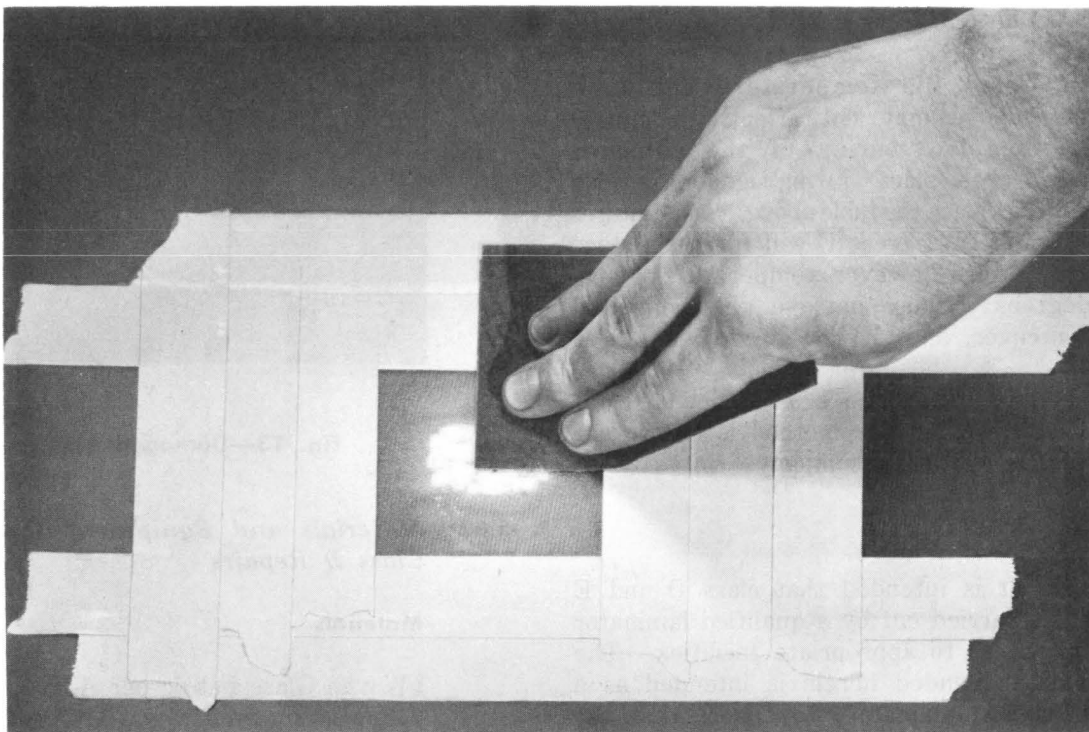

Fig. 14—Sanding Surface of Damaged Area
5.05 Abrade the surface enclosed by the tape (Fig. 14) to remove surface gloss and to expose the glass fibers.